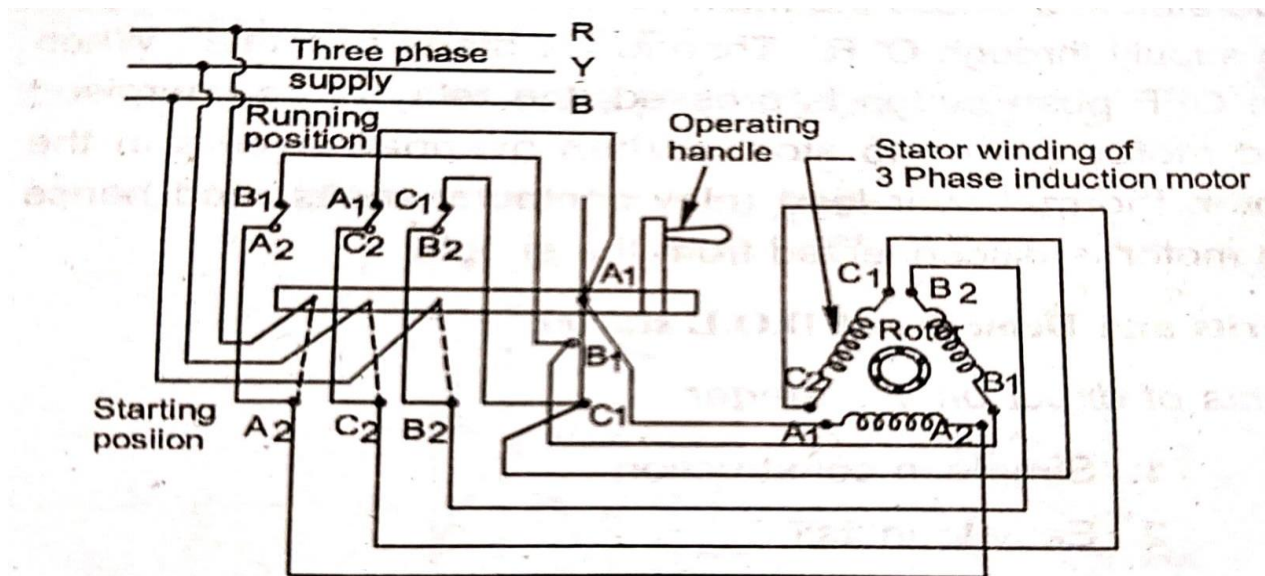

Fig.3.1
- The connection diagram for star-delta starter is shown in Fig.3.1.